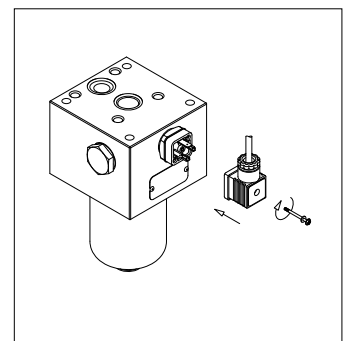

fig. 9
- (Fig. 9) Insert the connector by fastening the central screw (only for electrical indicators)
- For the mounting/dismounting of the indicator, please refer to the paragraph “Clogging indicator replacement” above (Fig. 9÷12)